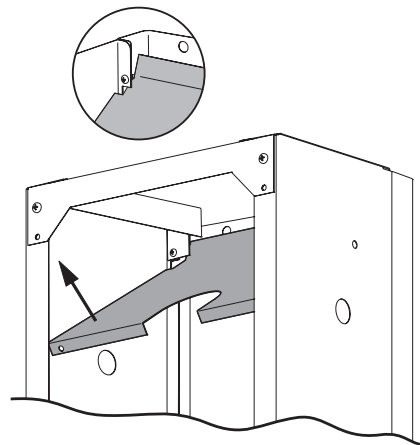

Figure 8
- Attach the Heat Shield to the Left and Right side assemblies with two 1/4-20 x 3/4" Phillips Truss Head screws and 1/4-20 Hex nuts. Make sure shield is resting on the cutout provided in the side panels before tightening the screws and nuts. See Figures 8 and 9. Note: Grill head removed for clarity.